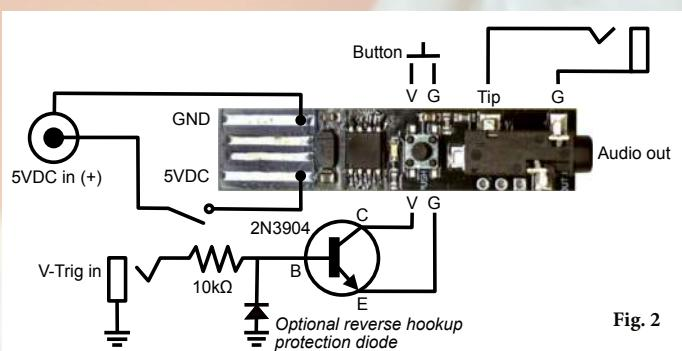

Fig. 2
I came up with the version in Figure 2. It sends the 5V pulse (V-trig, or voltage trigger) through a resistor to the base (B) of an NPN transistor, causing the transistor to connect its collector (C) and emitter (E) terminals. In other words, the transistor shorts the button to ground, producing a switch trigger (S-trig). The resistor protects the transistor by limiting the amount of current.